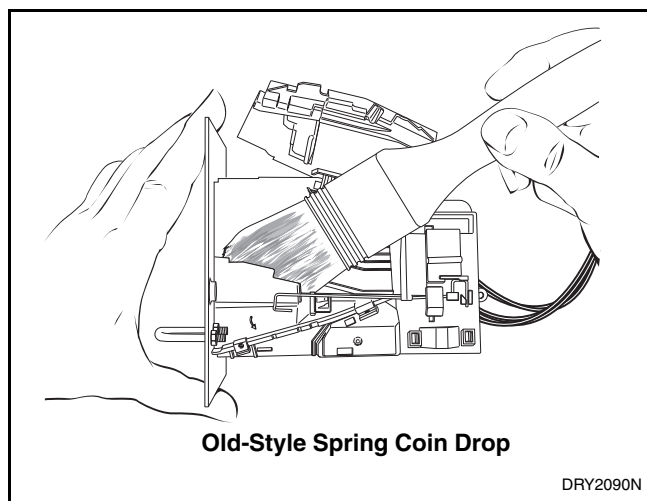
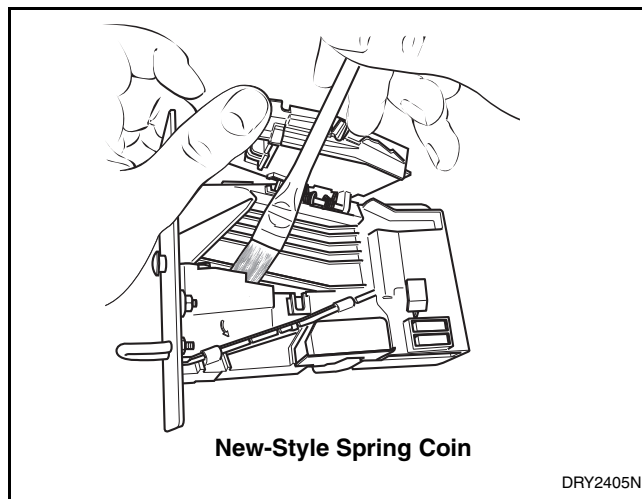

Figure 21
Figure 22
- d. Clean the coin path with a soft brush and wipe exposed surfaces with an alcohol moistened cloth. Refer to *Figure 21* or *Figure 22*.